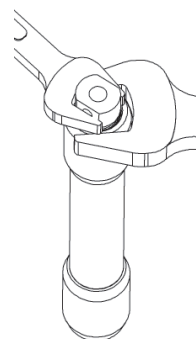

Figure 4
5. Use a 3/4 inch and 1/2 inch wrench to remove the end plug from the fuse cartridge. (See Figure 4)